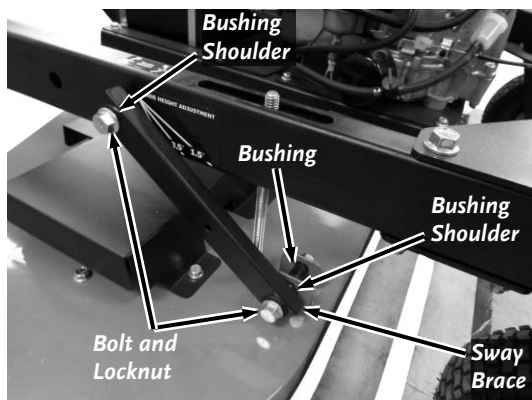

Figure 12
9. Install the Bushings into the sides of the Frame with the long portion of the Bushing fully into the Frame (**Figure 12**). The Bushing shoulder should be tight against the Frame.